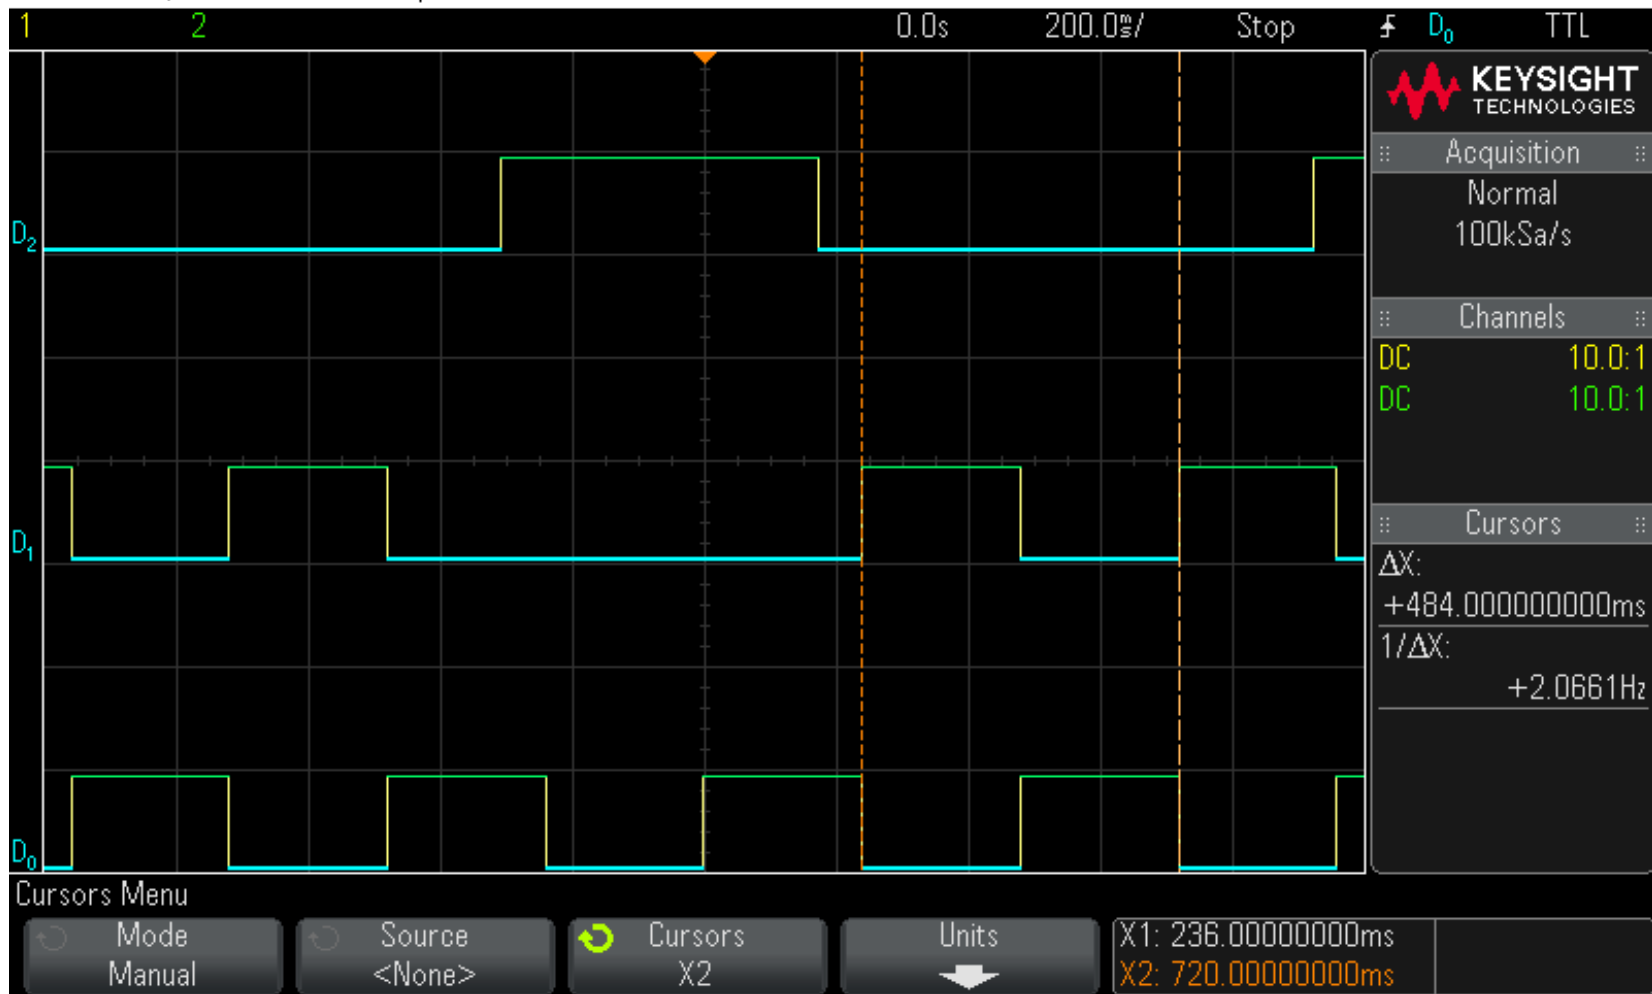

Figure 10. Cursor Placement
7. Lastly, use the **Cursor** knob to position the **X2** cursor over the next high-to-low transition point of the same waveform used for **X1**. Consult Figure 10 for a visual example of the previously described steps. Notice that the distance between cursors **X1** and **X2** represents ΔX and is the period of the waveform. The reciprocal of ΔX is the frequency of the waveform. In this particular example, the period is equal to 484 ms and the frequency is equal to 2.066 Hz. These values are also displayed at the bottom right of the image shown in Figure 10.